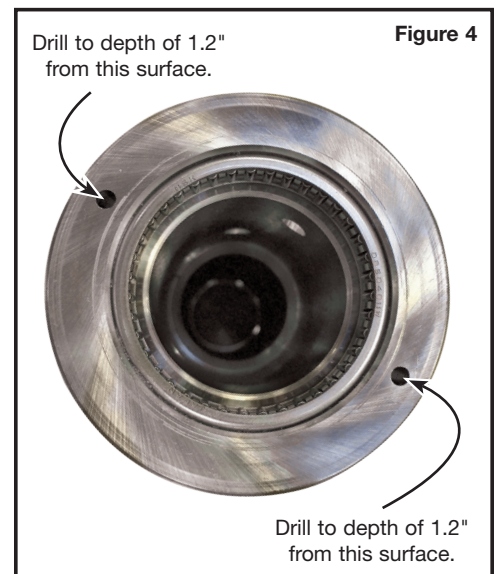

Figure 4
- Using holes in Sonnax stator shaft as pilots, drill to a depth of 1.2" from stator surface using a .125" bit (**Figure 4**).